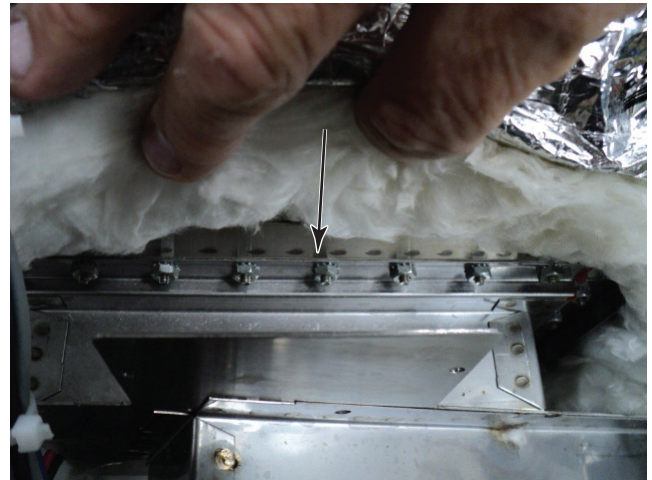

Figure 14
4. Remove six nuts from the top mounting side of the feed box (Figure 14).